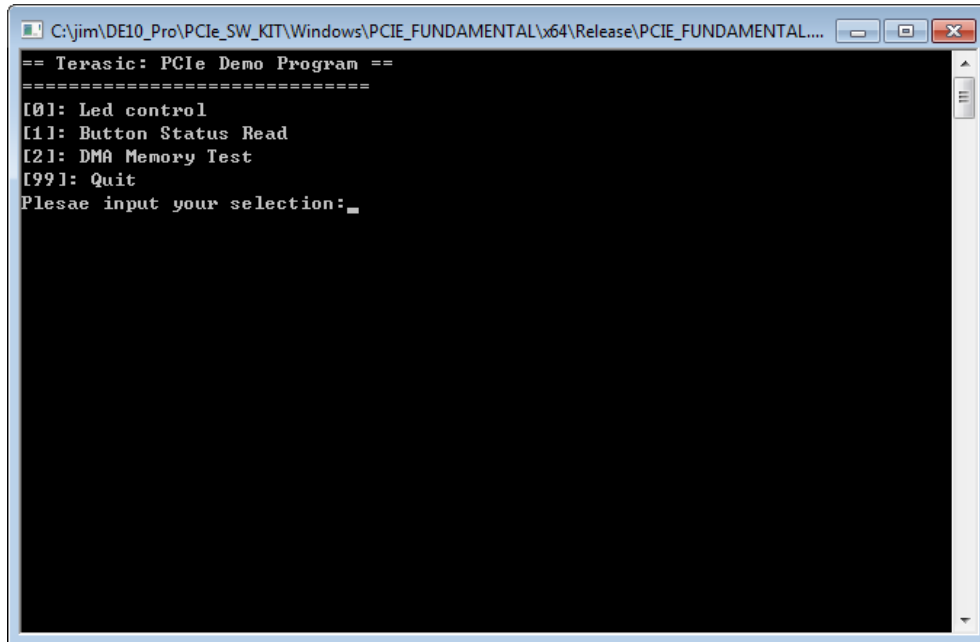

Figure 7-11 Screenshot of Program Menu
6. Go to windows_app folder, execute PCIE_FUNDMENTAL.exe. A menu will appear as shown in **Figure 7-11**.